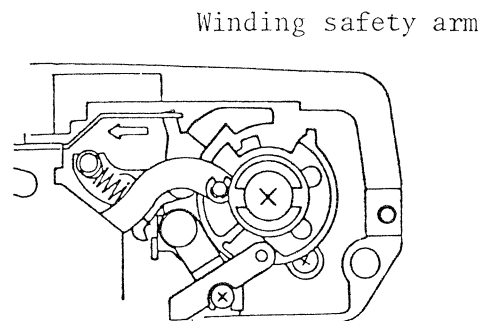

Fig.10
1. Detach the winding safety arm from the M1100-14501 crank cam. (Fig. 10)